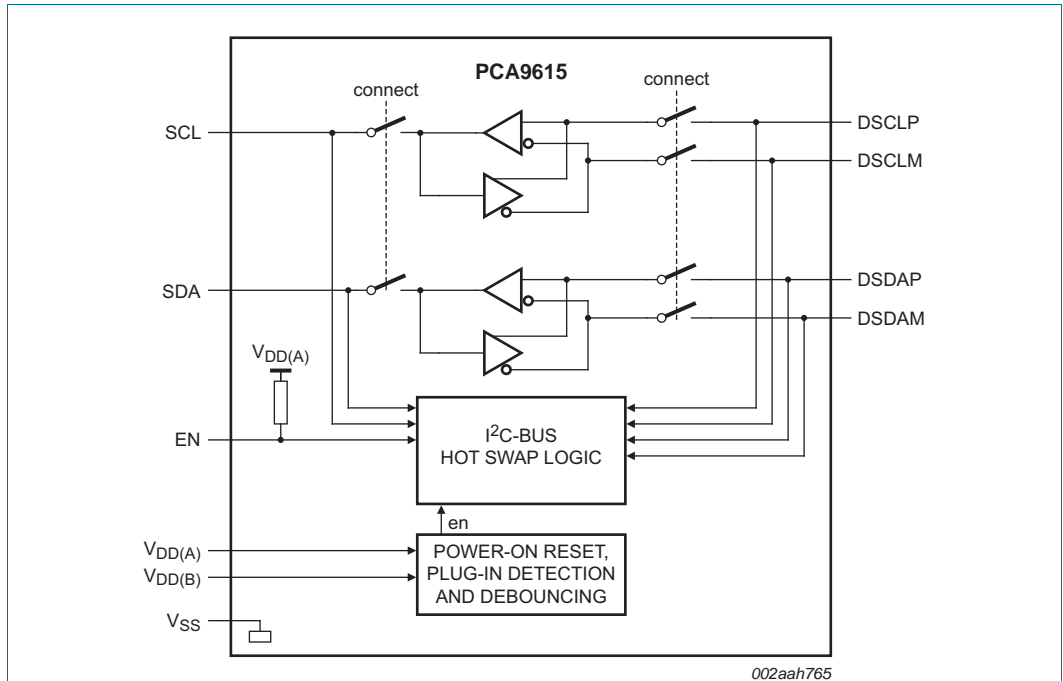

Fig 2. Block diagram (level 0)
Refer to Figure 2.
During a power-on sequence, an initialization circuit holds the PCA9615 in a disconnected state, meaning all outputs — SDA, SCL and the differential pins DSCLP/DSCLM and DSDAP/DSDAM — are in a high-impedance state. As the power supply rises (either power-up or live insertion), the initialization circuit enters a state where the internal references are stabilized and an internal timer is triggered. After 1 ms, power is applied to the rest of the circuitry and the PCA9615 detects the status on the differential DSCLP/DSCLM and DSDAP/DSDAM lines. When the differential lines are detected as connected to a bus with valid termination, that is, both DSCLM/DSDAM < 0.9 × VDD(B) and DSCLP/DSDAP > 0.1 × VDD(B), another timer is triggered. At the end of 10 ms, hot-swap logic (Figure 2) is enabled and the EN pin can detect a Stop Bit and Bus Idle condition. However, there is still no connection between SDA and DSDAP/DSDAM or between SCL and DSCLP/DSCLM. A successful EN pin sequence must occur for actual connection.